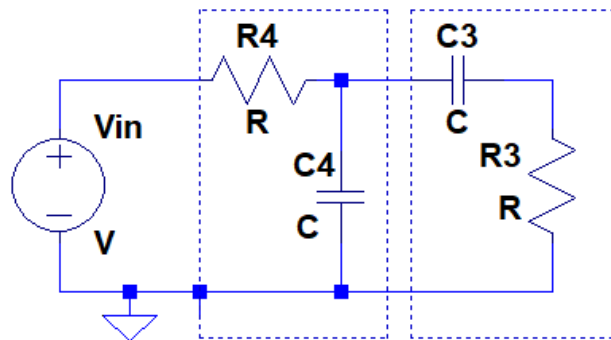

Fig. 7 (1st order Passive Band Pass Filter)
Figure 7 shows a first order BPF. The output is measured across R_3 . Note that the low-pass section (R_3C_3) sets the upper cutoff limit ω_H (or f_H). Similarly, the high-pass section (R_4C_4) sets the lower cutoff limit ω_L (or f_L).
1. Insert an AC input of 1V amplitude to the filter circuit in Fig. 7. Select the passive components to set the centre frequency of the filter to 40KHz, and Bandwidth(B) of the filter should be 10KHz.